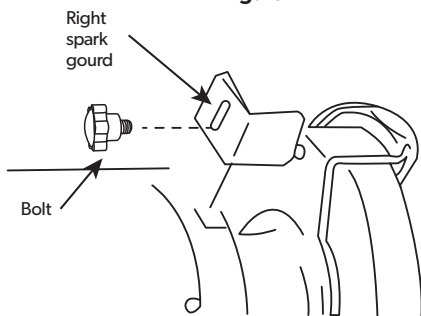

Figure 2
- a. Install the right spark guard to the wheel guard as shown in Figure 2.
Note: There is a left and right spark guard. Refer to Figure 2 to be certain that you install them correctly.